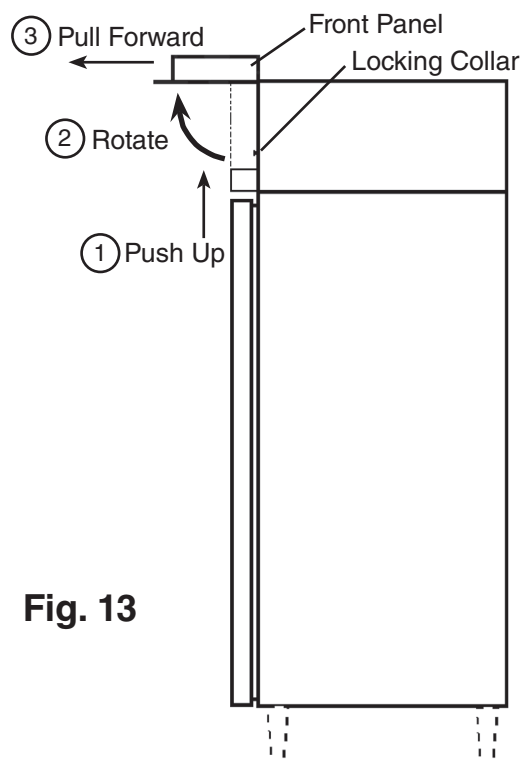

Fig. 13
- 1) Push the front panel up approximately 1/2" (1.3 cm) until it is disengaged from the locking collars. See Fig. 13.